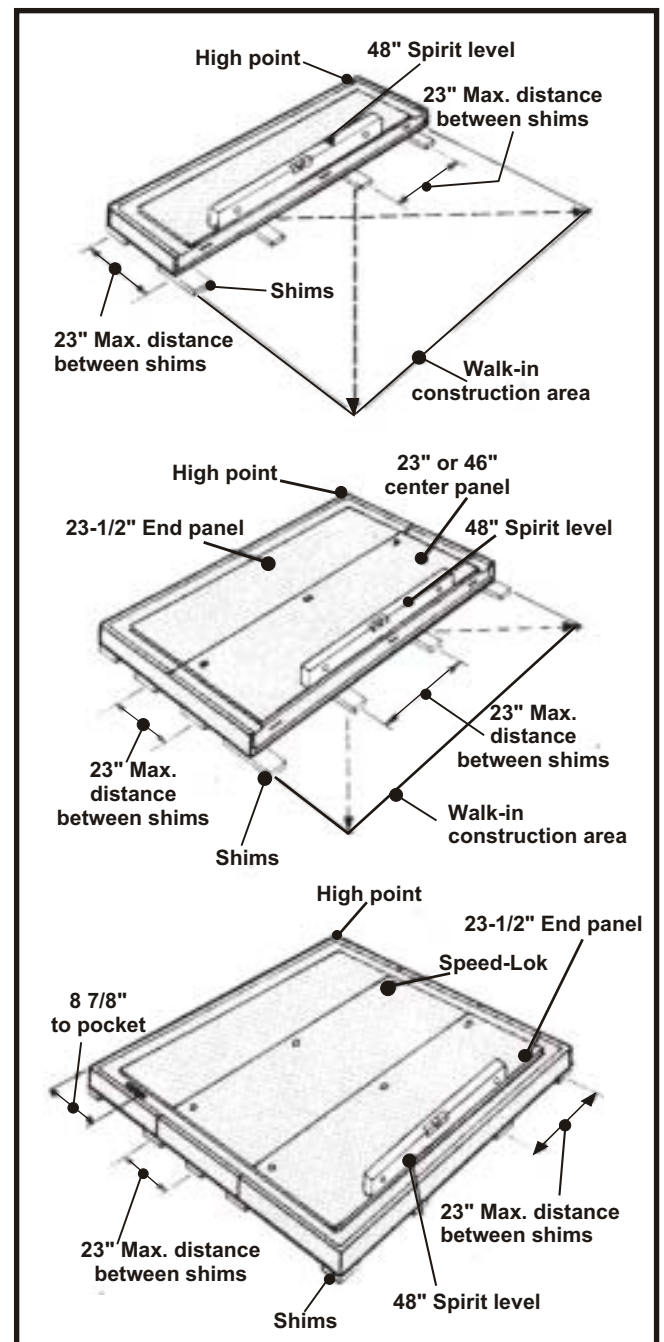

Fig. 11
- A. Place a 23-1/2" wide floor end panel along the outside mark designated for the walk-in. Be sure the panel is a floor panel. All floor panels have extra-heavy-gauge metal on the interior for extra strength. Again, make sure panel is level to high point of concrete slab. See Fig. 11.